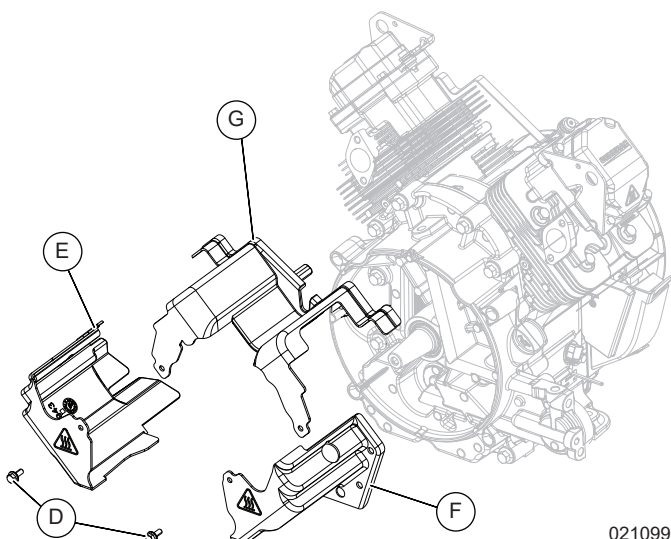

Figure 6-19. Remove Cylinder Wrappers
2. See Figure 6-19. Remove two fasteners (D), side wrappers (E, F), and top wrapper (G).